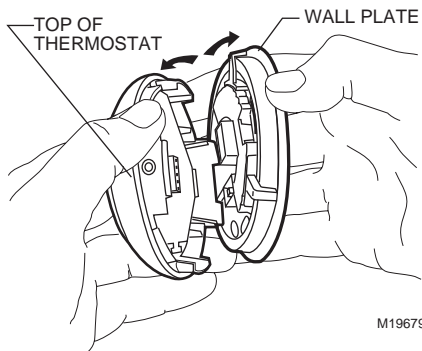

Fig. 3. Separate wallplate from thermostat.
1. Place your thumbs on top of the thermostat and wallplate. Use your thumbs to pull the thermostat away from the wallplate. See Fig. 3.